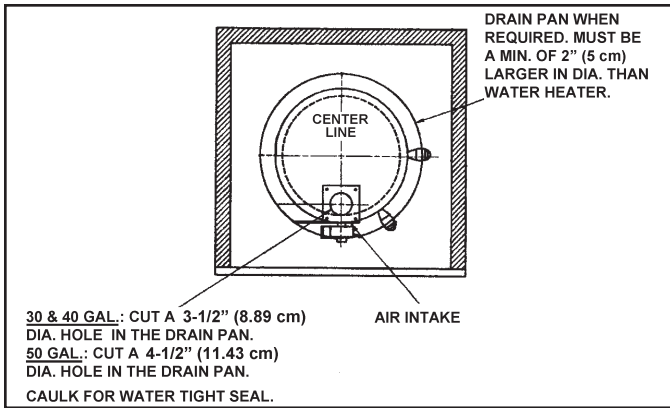

FIGURE 7.
- If you have found that the water heater is being installed in an area which, if the water heater was to leak, would cause damage and have elected to install a metal drain pan, refer to Figures 7, 8 and 9 on page 10. If you are not installing a drain pan, go directly to the next step.